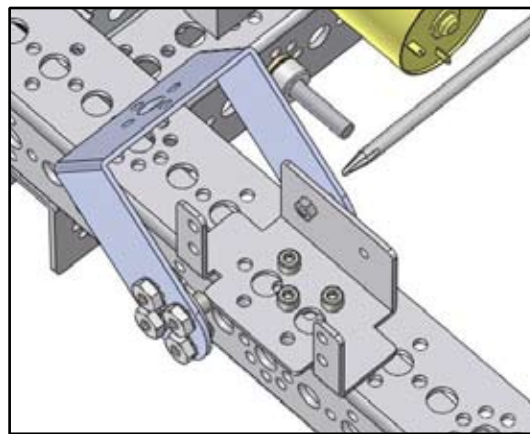

Figure B6
- 3) Place the bearing screw through the bearing from the outside of the pivot bracket. Insert the screw into the back of the motor bracket (Figure B6). Secure the pieces together with the washer and nut – but do not overtighten.